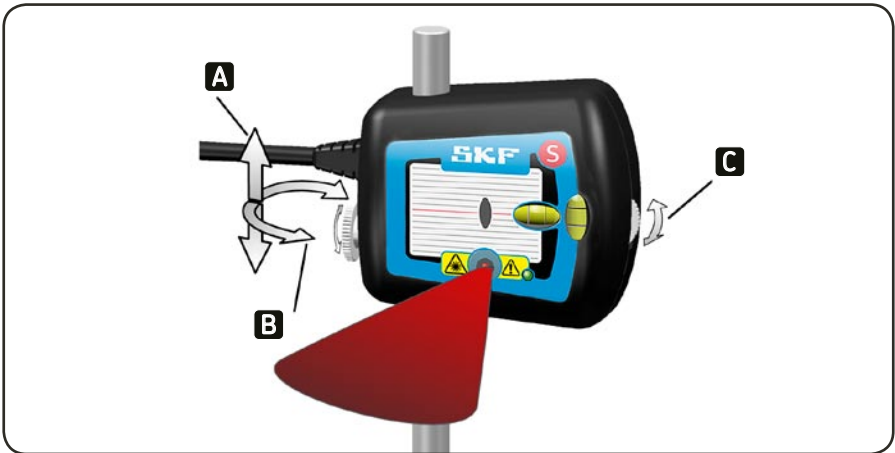

Fig. 10. Adjustment mechanism
- c) For coarse adjustment release the measuring unit by unlocking the knob on the side of the unit (fig. 10). This allows the measuring unit to slide up and down the rod at the same time as it can swivel freely. For the fine adjustment in height use the adjustment wheels on the measuring units.